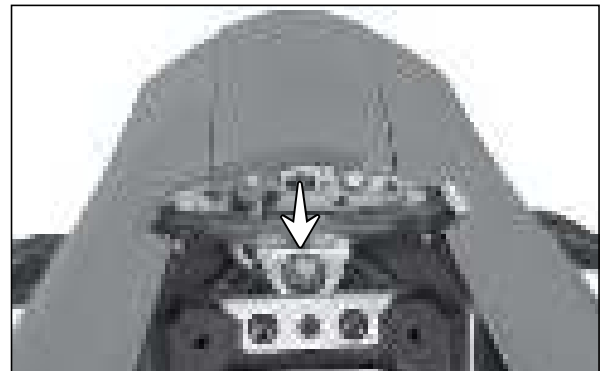

Fig. 2.26
- Remove the hexagonal bolt (M6x20 - 1 No.) along with the cup washer from the mounting of tail cover assembly with the chassis. (Fig. 2.26)